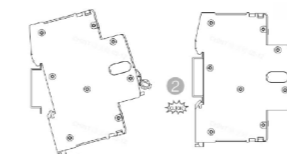
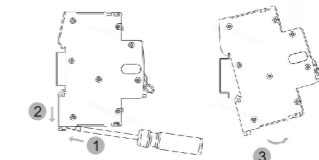

Fig. 3 Schematic Diagram of Mounting
Fig. 4 Schematic diagram of dismantling
5.2 Use TH35-7.5 type DIN rail, mounting and dismantling as shown in Fig. 3 and Fig. 4 below.